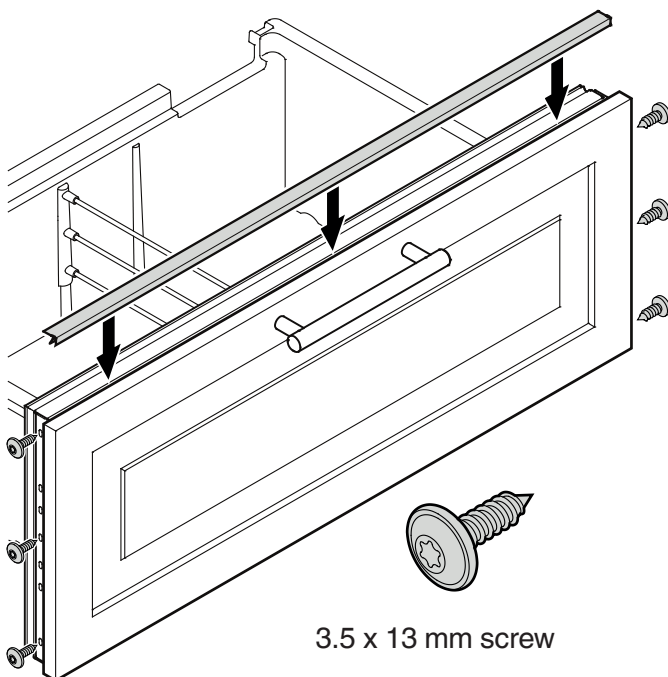

Figure 38
- Figure 38
1. Pull out the upper freezer drawer and screw on the panel with three screws on the left and right sides using the screws as shown in **Figure 38**.